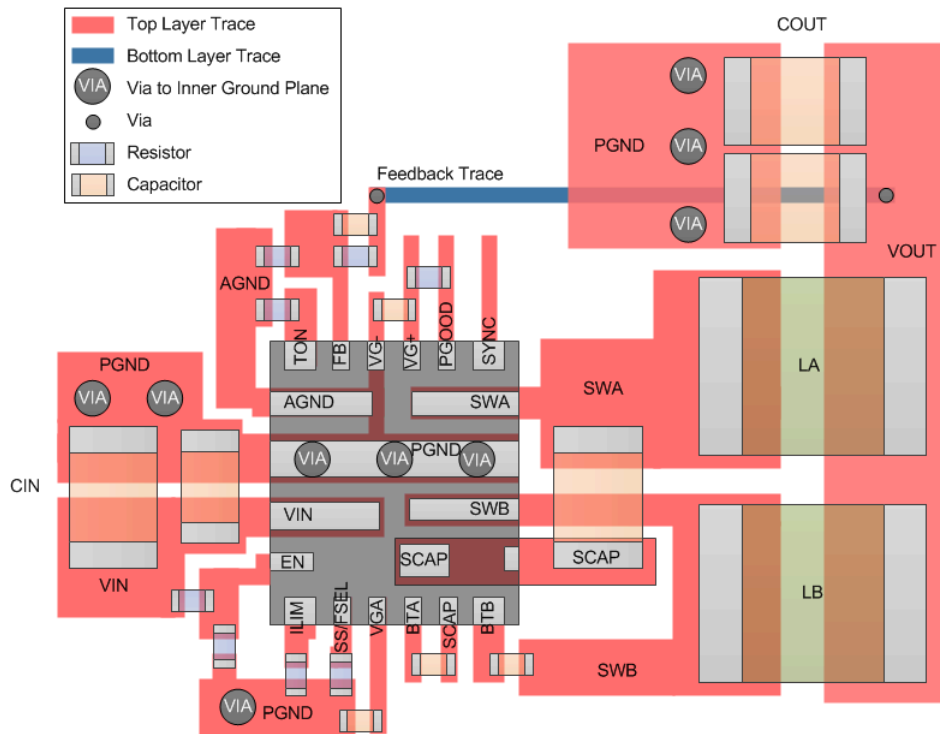
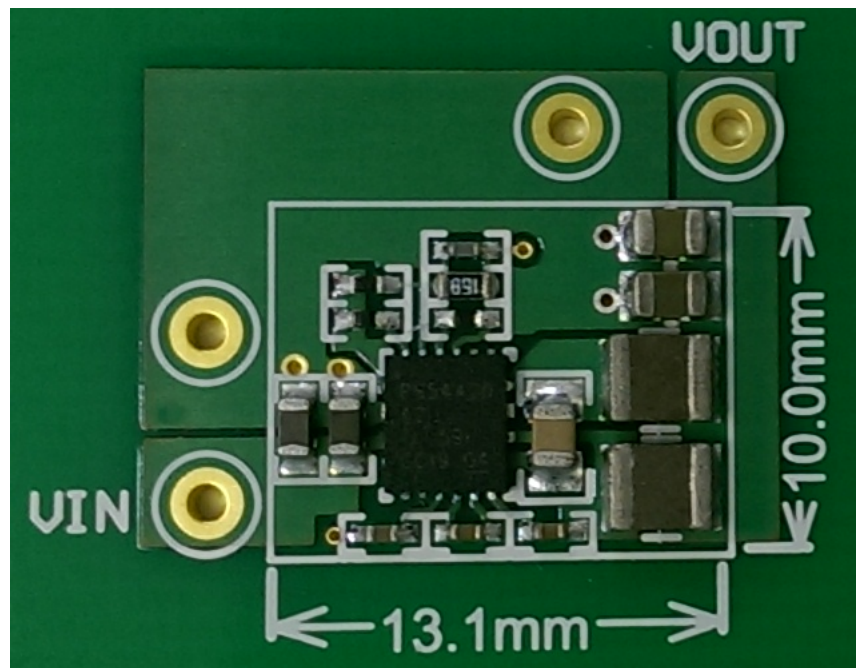

Figure 61. Layout Recommendation
Figure 62. Example Converter Layout
- Layout is a critical portion of good power supply design. See Figure 61 and Figure 62 for a PCB layout example. It may be possible to obtain acceptable performance with alternate PCB layouts, however this layout has been shown to produce good results and is meant as a guideline.
- The FB pin is sensitive to noise. The feedback resistors should be located as close as possible to the IC and routed with minimal lengths of trace. Place the feedback resistor network near the device to minimize the FB trace distance. When operating at 7 MHz or 10 MHz, a resistor (e.g. 10 kΩ) is required in series with the FB pin to reduce noise coupling and filter out high frequency noise as shown in Figure 61.
- The no connect (NC) pin should be connected to the trace connecting the SCAP pin to the series capacitor. This will improve board level reliability.